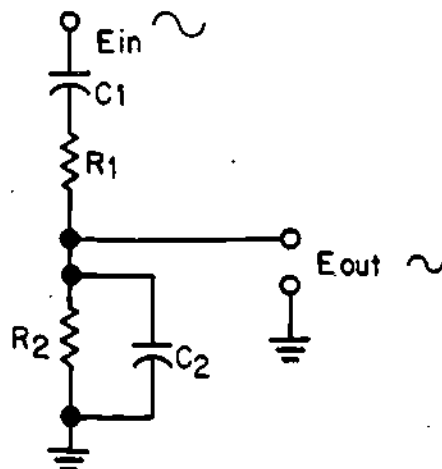

Figure 5
6. The schematic shown in Figure 5 is the portion of the bridge section of the oscillator circuit which determines oscillator frequency.